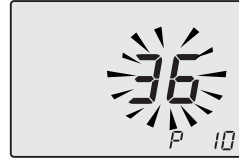

Fig. 7.38
- Scroll the various parameters using keys 17 or 18 until the letters **P10** are displayed on the LCD display, indicating that "parameter 10" (Fig. 7.38) has been activated.